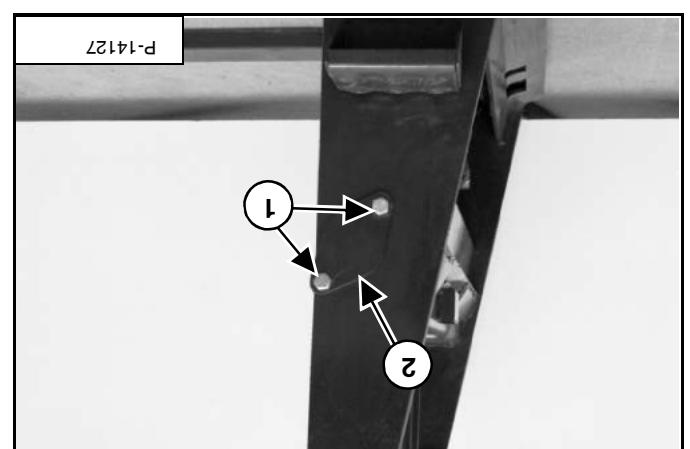

Figure 60
Remove the two bolts (item 1) from one of the slide rod covers (item 2) [Figure 60].